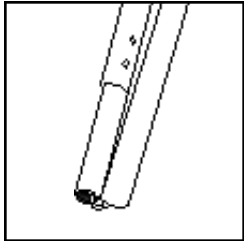

Figure 1A
1. Assemble the poles (figures 1A, 1B and 1C).